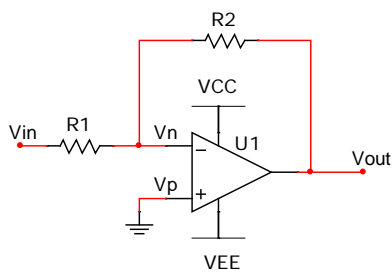
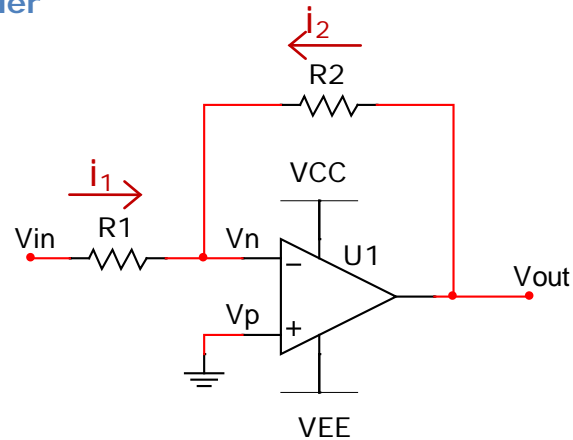

Figure 1. Inverting amplifier.
Figure 12. Inverting amplifier.
1. Analyze the inverting amplifier circuit in figure 12 (same as figure 1) to derive an equation for the gain,  $A_v$ , as a function of  $R_1$  and  $R_2$ .